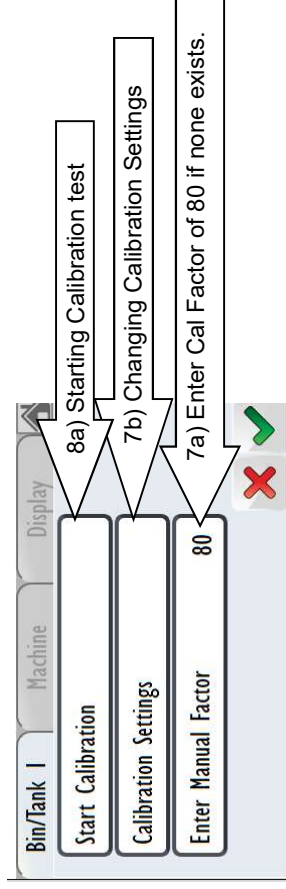
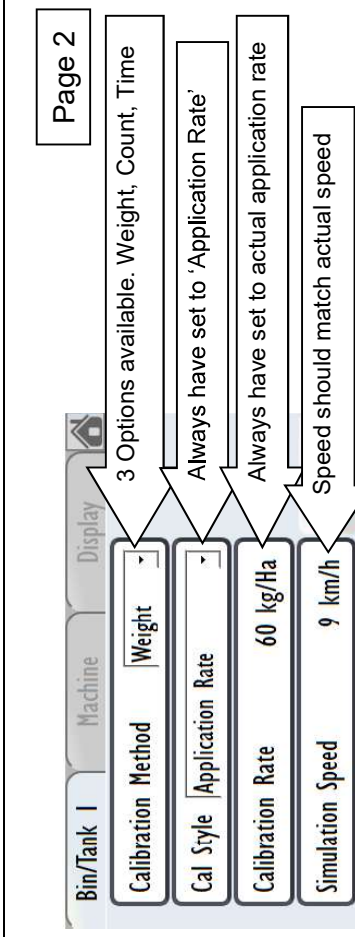

Figure 7 'Calibrate' screen
Figure 8 'Calibration Settings' screen
b) If bin has not previously been calibrated, enter the 'Calibration Settings' (refer Fig. 7) to check settings suit your requirements. It is possible to select either 'Weight', 'Count' or 'Time' (refer Fig.8) as the Calibration Method. In most cases selecting Weight is the preferred setting where you will be asked to enter a desired sample weight to be metered. 'Calibration Rate' should reflect actual paddock rate and 'Simulation Speed' set to your average seeding speed.
8. Starting the Calibration test (refer Fig. 7 & 9):-
a) Enter the Calibration process by pressing 'Start Calibration' (Fig. 7).